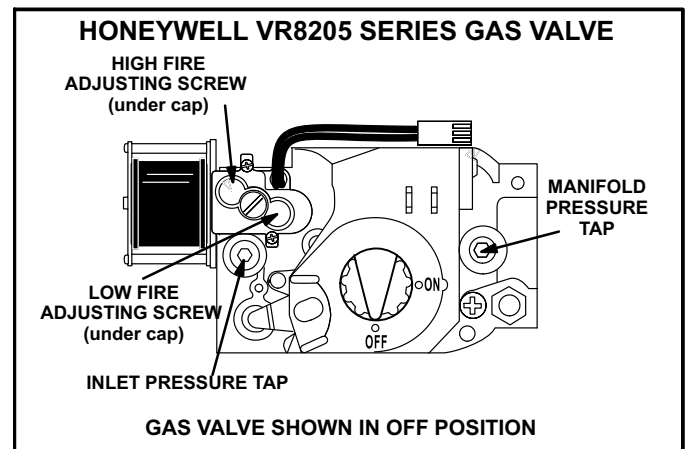

FIGURE 30
Gas Valve Operation (Figure 30)
- 6 - *Honeywell VR8205 Gas Valve* - Turn knob on gas valve clockwise  to **OFF**. Do not force. See figure 30.
When testing supply gas pressure, connect test gauge to inlet pressure tap on the gas valve. See figure 30. Check gas line pressure with unit firing at maximum rate. Low pressure may result in erratic operation or underfire. High pressure can result in permanent damage to gas valve or overfire. See table 25 for operating pressure at unit gas connection (line).